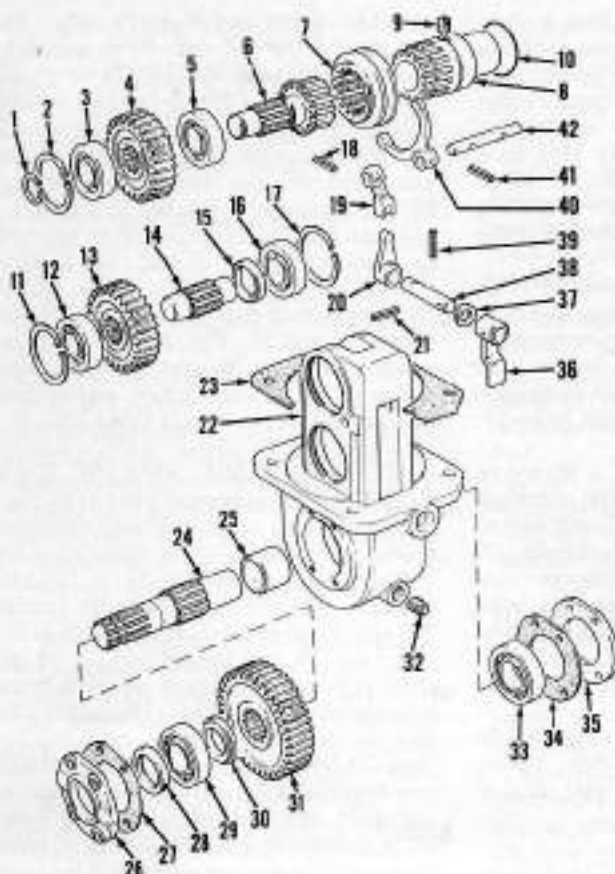

Fig. 31—Exploded view of transfer gear box used on models equipped with Carraro front drive axles.
shaft arm (36—Fig. 31) from selector cable and remove cable bracket from frame. Remove fuel tank cross-over pipe and push selector arm (36) rearward to disengage sliding gear from transmission drive coupler. Support transfer gear box, remove mounting bolts, lower transfer gear box to floor.
**41. OVERHAUL TRANSFER GEAR BOX.** With transfer gear box removed, disassemble as follows: Pull sliding gear (7—Fig. 31) outward and drive roll pin (41) out of selector fork (40) and shaft (42). Remove sliding gear and selector fork. Remove snap rings (1 and 2) and drive drive shaft (6) rearward, then remove shaft (6) and drive shaft gear (4). Remove snap rings (11 and 17) and drive intermediate shaft (14) rearward. Remove shaft (14) and bearing assembly (16). Remove intermediate gear (13) and rear spacer (15). Remove output shafts front cover (26) and rear cover (35). Press output shaft (24) out of front of housing. Front inner bearing race (29) and spacer (30) will come out with shaft (24). Remove roll pin (18), inner selector lever (20) and shaft (38). Remove remaining bearings by driving them inward. Remove output gear (31), rear spacer (25) and any bearing races which fell into housing (22).